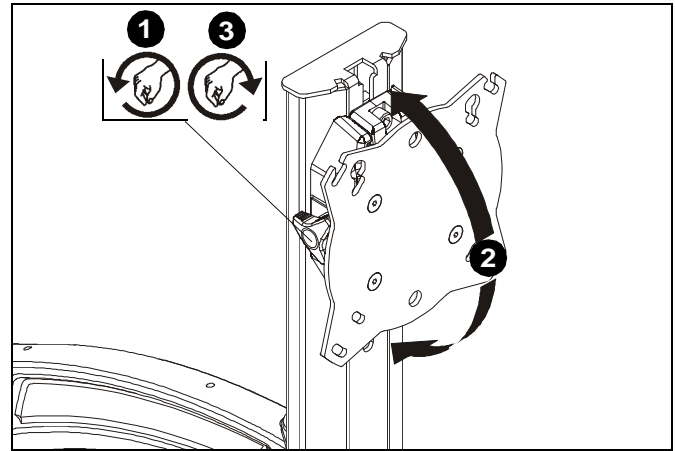

Figure 26
1. Loosen knob on side of center faceplate assembly. (See Figure 26)
2. Adjust pitch as desired. (See Figure 26)
3. Tighten knob to secure desired pitch position. (See Figure 26)